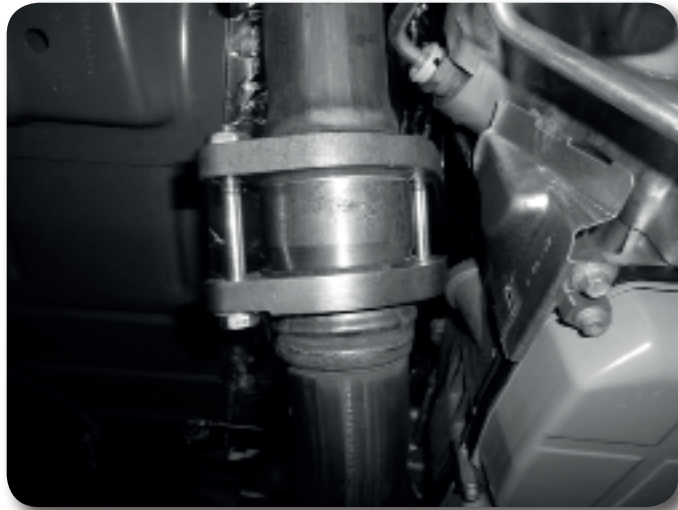

Figure 1
4. Place the two exhaust extension tubes side by side. Install the short tube in the driver's side. It will be necessary to pry the rear portion of the exhaust back to gain clearance for installation of the tube. Make sure that the extension is in line with the exhaust and straight. Figure 1